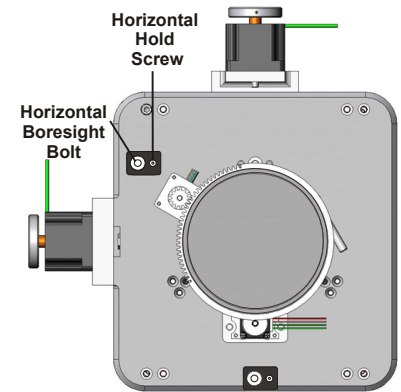
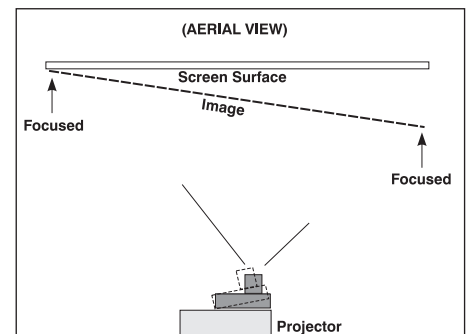

Figure 2-36 Horizontal Boresight
Figure 2-38 Aerial View Illustrating Misaligned Boresight
1. The Horizontal Hold Screw acts as counter-resistance to hold the lens mount in place once set. Before adjusting the boresight, loosen the **Horizontal Hold Screw**. See **Figure 2-36**.
- a. If the right side of the image comes into focus before the lens is completely retracted, then the image focuses in front of the screen. See **Figure 2-38**. To correct this problem, adjust the **Horizontal Boresight** bolt to direct or aim the lens mount towards the LEFT to balance out the left/right edges. See **Figure 2-36**.